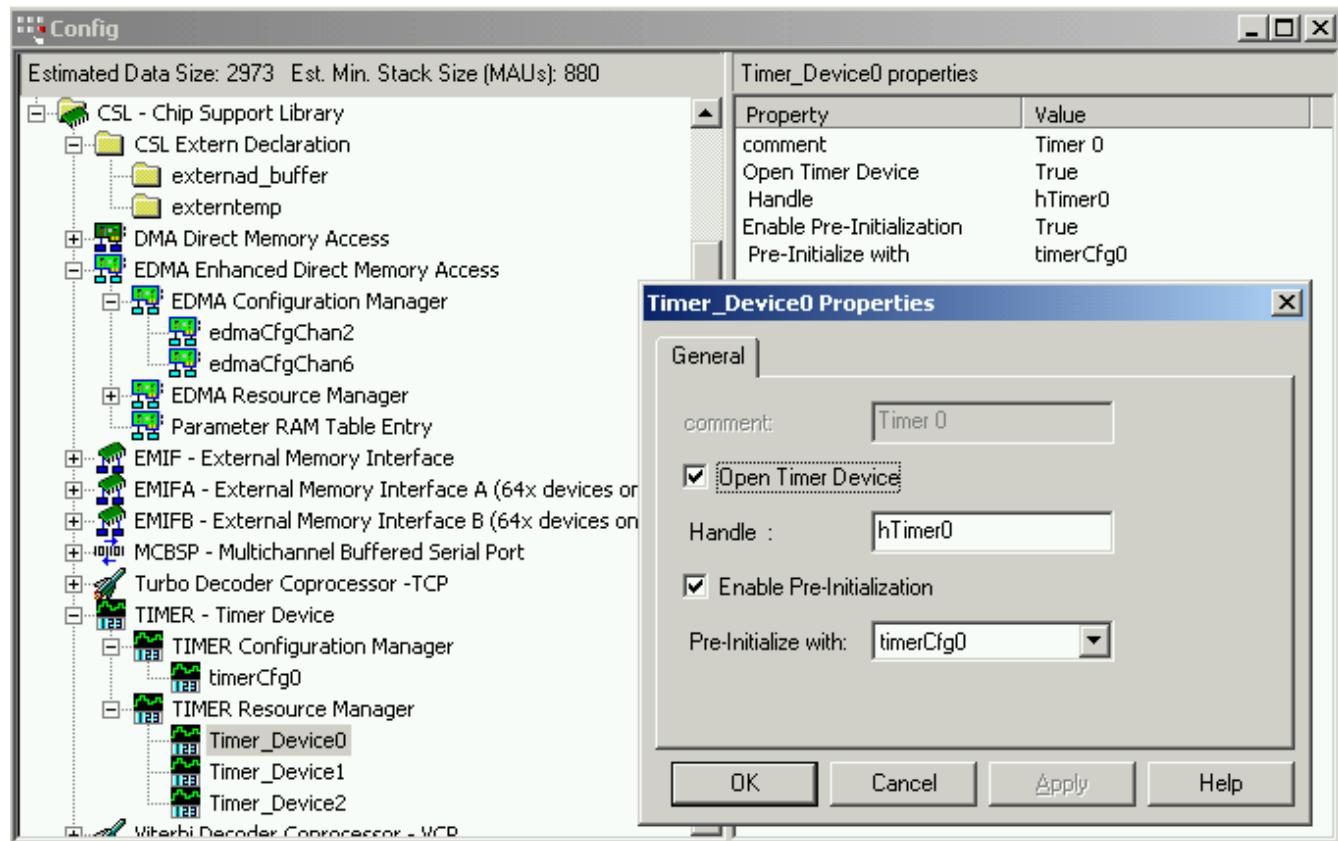

Figure 26. TimerCfg0 Mapped in Timer0 Device Tab Options
4. Now that the configuration object has been set, it must be mapped into the appropriate device. Expand the Timer Resource Manager and right click on Timer_Device0. Select options as shown in Figure 26. Enable timer0 registers to be preinitialized and open a hTimer0 handle.